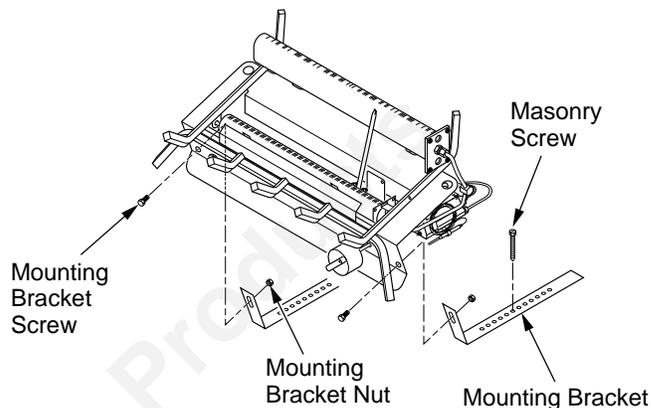
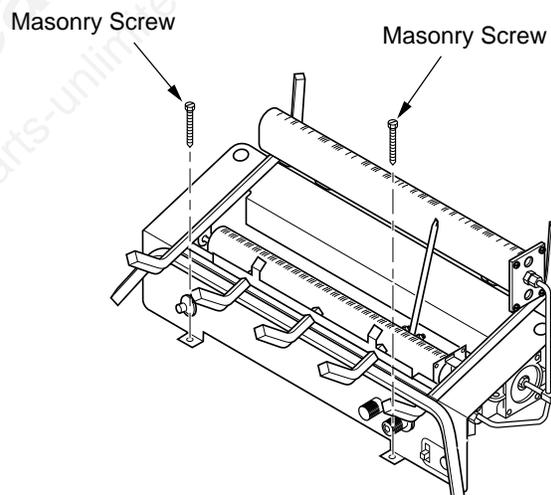

Figure 13 - Attaching Heater to Fireplace Floor (Variable Manually-Controlled and Thermostatically-Controlled Models Only)
Figure 14 - Attaching Base to Fireplace Floor (Remote-Ready Models Only)
2. Locate mounting brackets, bolts, and nuts in hardware package (Variable Manually-Controlled and Thermostatically-Controlled Models Only). Attach mounting brackets to heater base (see Figure 13, page 11). Attach nuts finger tight.
4. For Variable Manually-Controlled and Thermostatically-Controlled Models mark screw locations through holes in mounting brackets (see Figure 13). For Remote-Ready Models mark screw locations through holes in front panel of base (see Figure 14). If installing in a brick-bottom fireplace, mark screw locations in mortar joint of bricks.
8. For Variable Manually-Controlled and Thermostatically-Controlled Models attach mounting brackets to fireplace floor using masonry screws provided in hardware package (see Figure 13). Reattach heater base to mounting brackets (see Figure 13). Tighten nuts firmly.
9. For Remote-Ready Models attach base, through holes in front panel of base, to fireplace floor using masonry screws provided in hardware package (see Figure 14).